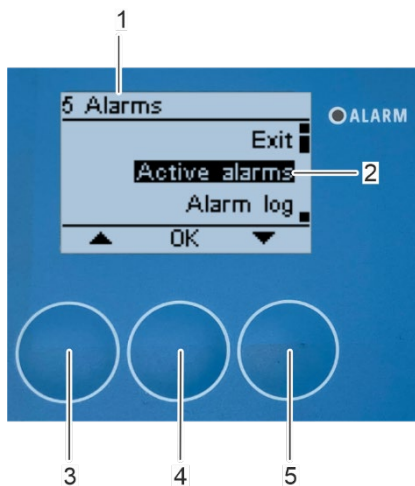

Fig. 184: Open submenu "Active alarms"
⇒ The "5 Alarms" submenu appears on the display (Fig. 184/1).
1. Select the "Active alarms" submenu (Fig. 184/2) with the arrow keys *[up]* (Fig. 184/3) and *[down]* (Fig. 184/5).
2. Confirm the selection with *[OK]* (Fig. 184/4).